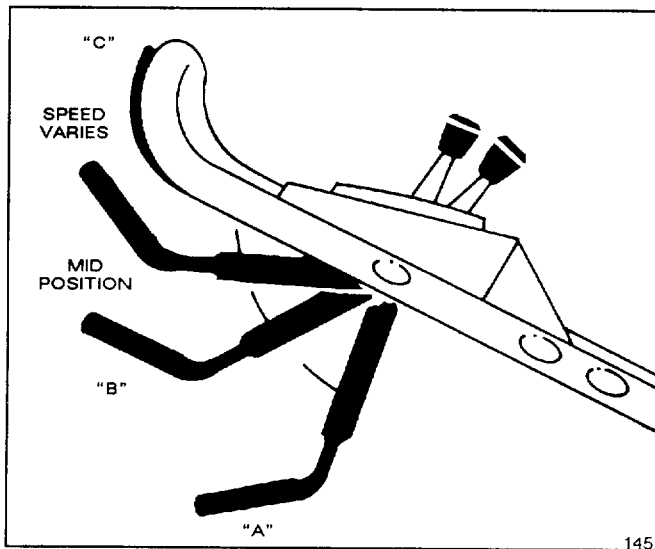

Figure 5
5. **BLADE AND TRACTION OPERATION** (Fig. 5) – Move control bar down to “A” and raise to “B” to engage blade. Squeeze control bar against handle “C” to drive. Ground speed varies, depending on space between control bar and handle. To disengage traction drive but keep blade engaged, gradually release control bar to mid position. To self-propel with blade disengaged, simply squeeze control bar against handle, eliminating downward movement necessary for blade engagement.
6. **STOPPING** (Fig. 5) – Release control bar to stop blade and traction drive. Move ground speed control to . To stop engine, move throttle to OFF. Pull wire off spark plug if mower will be unattended or not used.